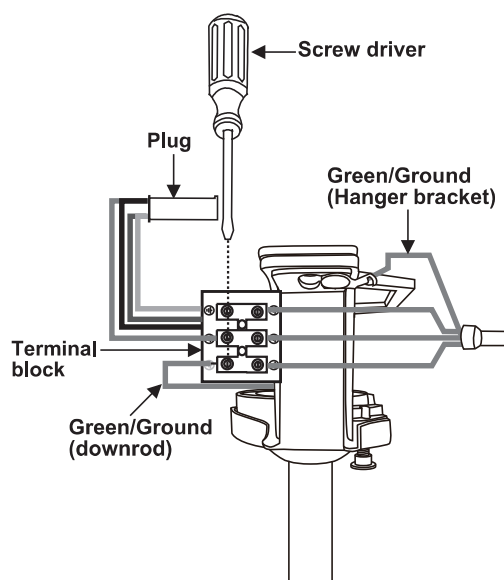

Figure 10
2. Connect the green/ground wire from the downrod ball to the terminal block. (Fig. 10)